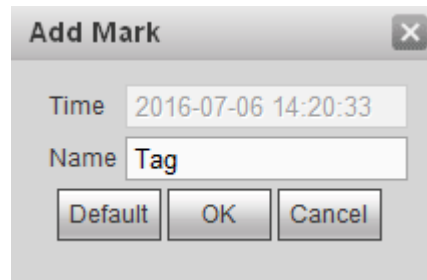

Figure 5-176
Step 1 When system is playback, click Mark button , you can go to the following interface. See Figure 5-176.